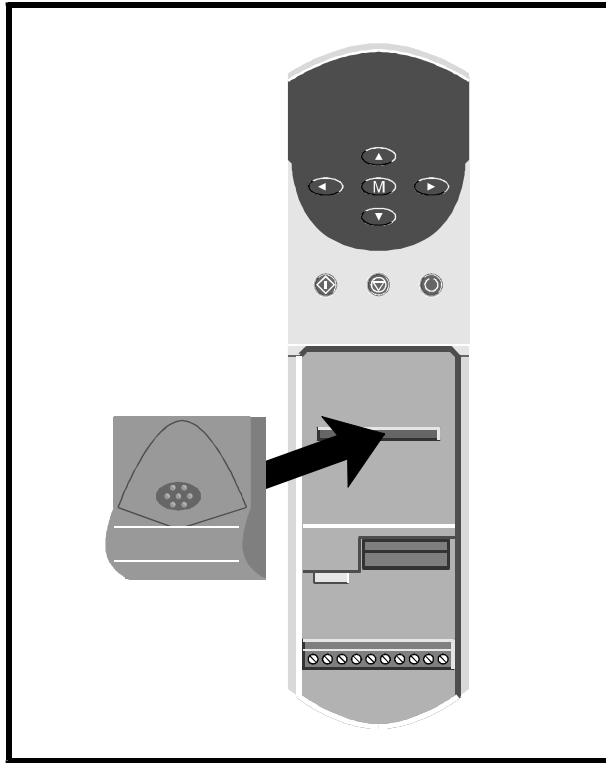

Figure 1 *Installing the UD51 in the Unidrive*
- 4 Position the multi-way connector on the rear of the UD51 over the connector in the Drive (see Figure 1), and press on the thumb pad to push the UD51 into place.